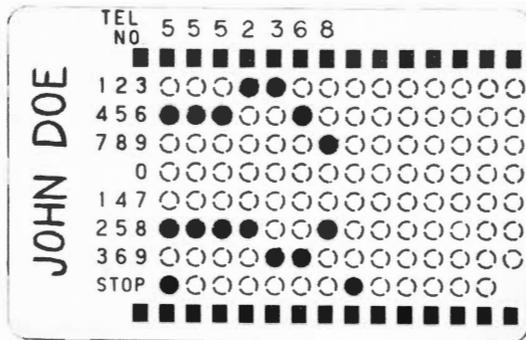
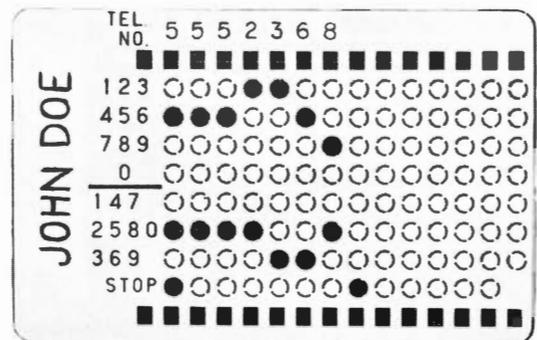

Fig. 3 - P-13E353 Card Coded for 7-Digit Telephone Number (555-2368)
Fig. 5 - P-24E238 Card Coded for 7-Digit Telephone Number (555-2368)
**2.07** Card sets supplied with the set for use in the 40A dial are coded P-13E353 at the present time (Fig. 3 and 4). When stocks of this card are depleted, the P-24E238 card sets (Fig. 5 and 6) will be substituted. The cards differ slightly in number groupings and procedures for coding telephone numbers.
3.02 Coding instructions for cards (Fig. 3, 4, 5, and 6) are as follows:
(1) Write name and desired telephone number in spaces provided as shown in Fig. 3 and 4. Convert the two exchange letters to numbers by referring to the telephone dial. (For example: use 2 for A, B, or C.)
(2) There are two groups of numbers on the left side of the card (Fig. 3 and 4). On the P-13E353 card set (Fig. 3 and 4), the zero appears only once; on the P-24E238 card set (Fig. 5 and 6), the zero appears in both number groups.
(3) Each digit in the telephone number heads a column. For example: in Fig. 3 and 5, the first digit of the telephone number is 5. Locate the digit 5 in the first group of numbers and punch out the perforation with a pencil or ball-point pen. In the same column